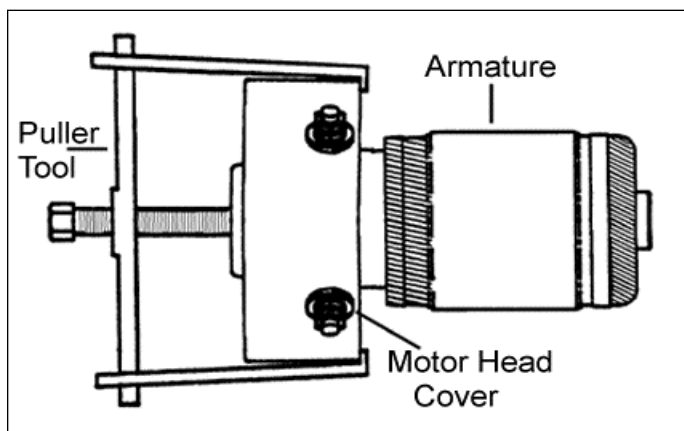

Figure 24 - Remove Armature
- Pull motor head assembly off of armature assembly maintaining equal pressure on all sides of head. See Figure 24.